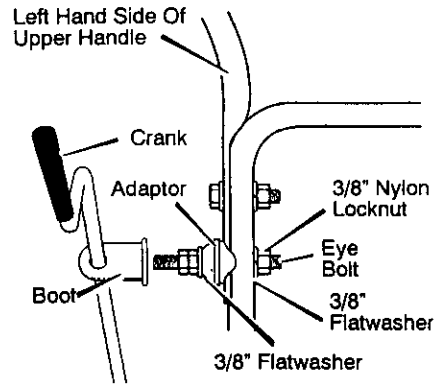

Figure 5
4. Locate **crank assembly** removed earlier and remove the **nylon locknut** and **flatwasher** from the **eye bolt assembly**. See Figure 5.